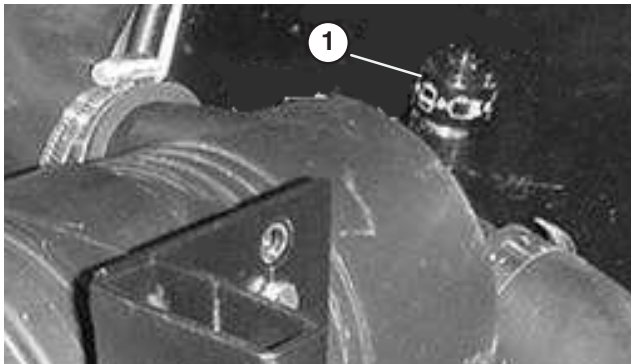

Figure 28
2. Service the air cleaner filter when air cleaner indicator (Fig. 28) shows red or every 400 hours (more frequently in extreme dusty or dirty conditions). Do not over service air filter.
7. Reset indicator (Fig. 28) if showing red.